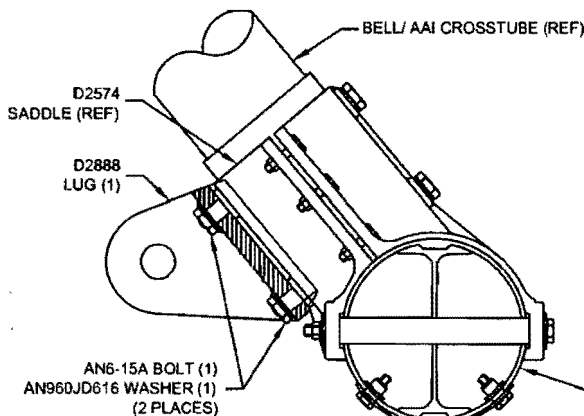
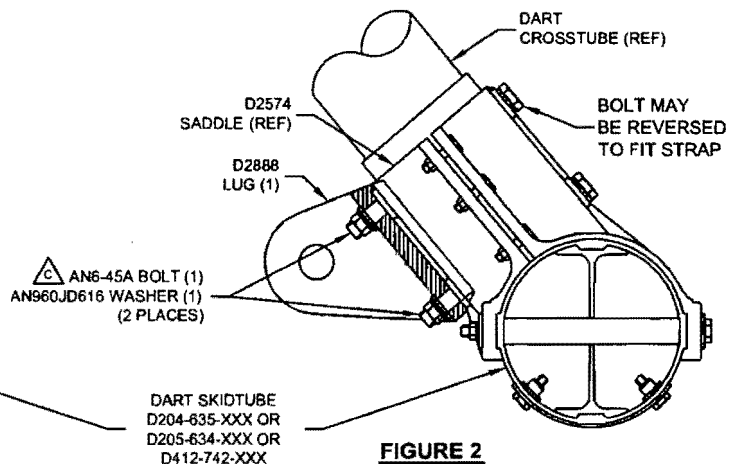

FIGURE 1
FIGURE 2
- 1) REMOVE AN6-12A BOLTS (4) ON INBOARD SIDE OF AFT SADDLE AND DISCARD. ON LANDING GEAR WITH DART AFT CROSSTUBES, REMOVE (4) AN6-40A BOLTS.
- 2) INSTALL D2888 LUGS WITH AN6-15A BOLTS (2) AS SHOWN IN FIGURE 1. USE AN6-45A (2) BOLTS ON DART CROSSTUBES, AS SHOWN IN FIGURE 2.